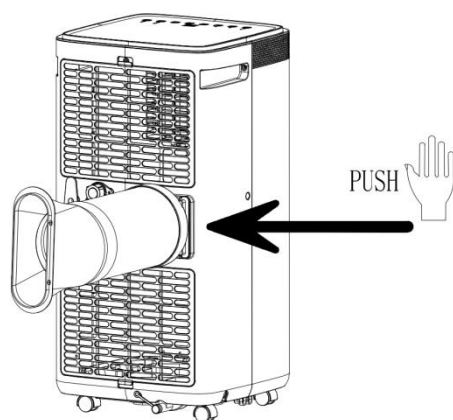

Figure 1
#### 1.1 Install the heat pipe assembly ( as shown in Fig.1 )
2) Insert the heat pipe assembly (the end of the exhaust joint) into the back panel vent slot (push to the left) and complete the assembly (as shown in figure 1).